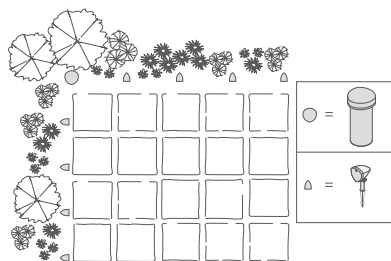

Figure 3
- Added to an existing Definitive Technology LS-6.1 Landscape System to expand coverage (see Figure 3)